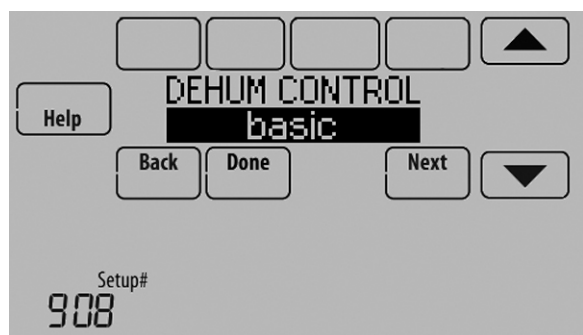

Fig. 148.
4. Set the Dehumidification Control. See Fig. 148. For more information about these options, see “Dehumidification using the Cooling System” on page 65.